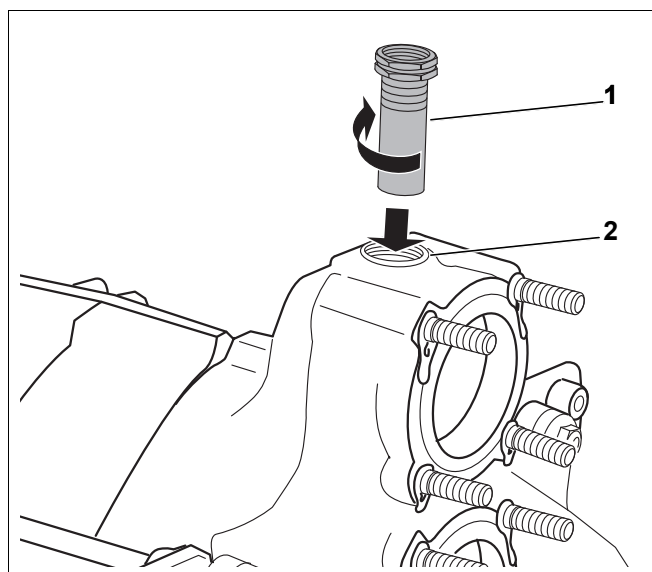

Fig. 20 Sensor well installation
- Seal the sensor well $\frac{3}{4}$ " (Length: 110 mm) (→ Fig. 20, [1]) from above into the $\frac{3}{4}$ " threaded hole of the flow connection (→ Fig. 20, [2]).